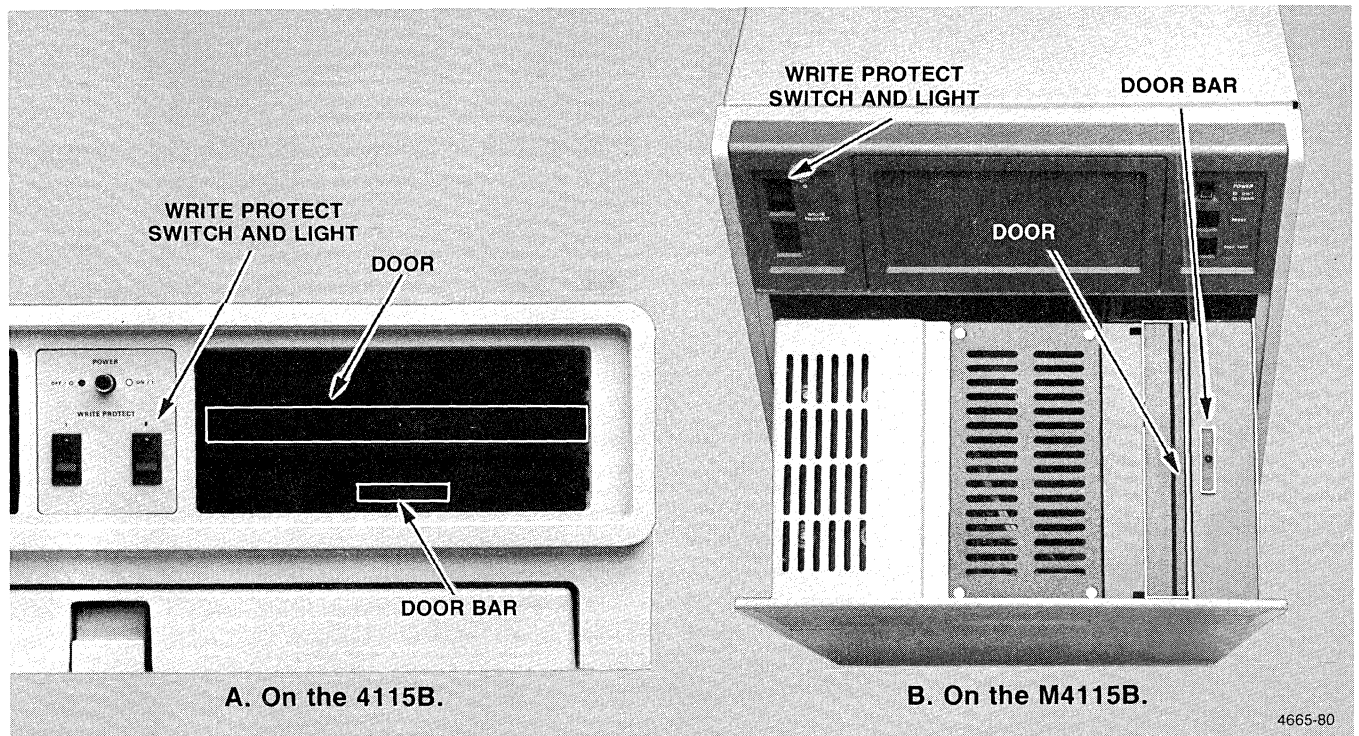

Figure 3-1. Option 42/43 Flexible Disk Drives.
1. When the WRITE PROTECT switch (Figure 3-1) on the disk drive is on, the light in the switch lights up and the entire disk in the drive is *write-protected*. You cannot format the disk, delete or add files, or add information to files on the disk. If you attempt any operation that would change the data on the disk, an error results.